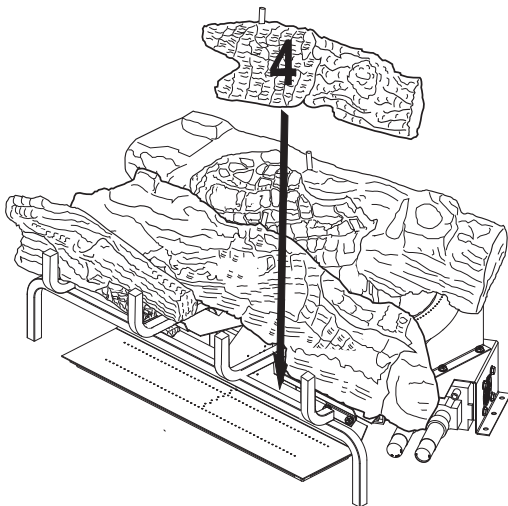

Figure 24 - Installing Log #4
4. Place the front right log (#4) onto the base assembly between the middle log (#2) and the grate. The back of the front right log (#4) will rest against the front of the middle log (#2). The notch in the end of the front right log (#4) will fit around the grate bar. See **Figure 24, Page 18**.